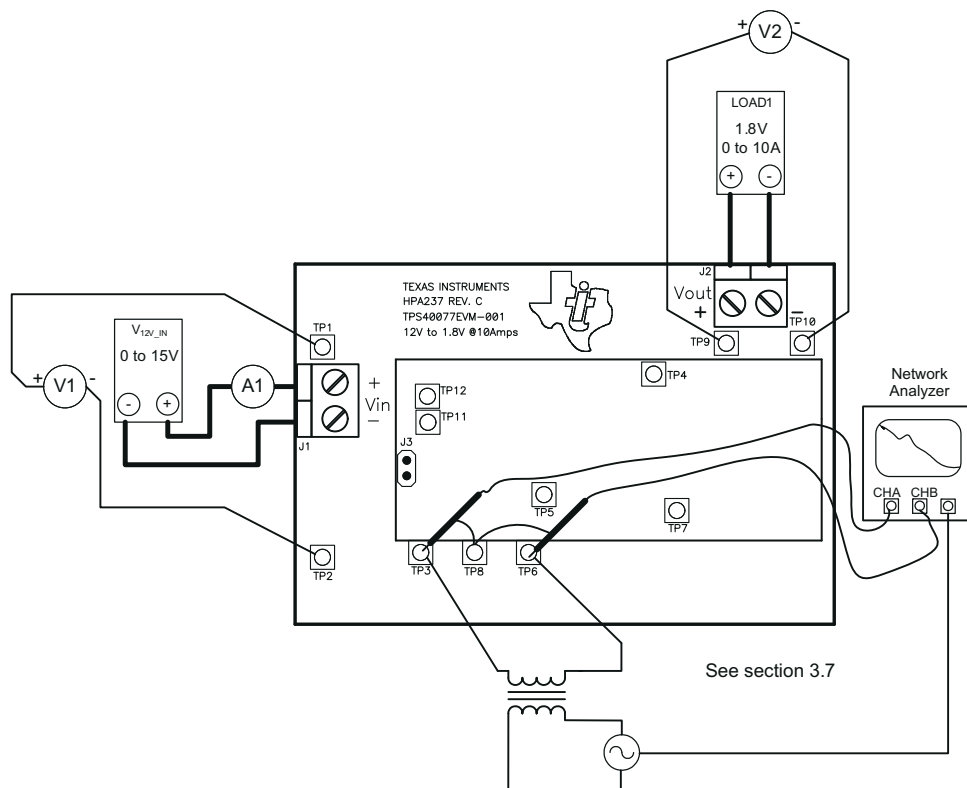

Figure 3-4. Control Loop Measurement Setup
1. Connect a 1-kHz to 1-MHz isolation transformer to TP3 and TP6 as shown in Figure 3-4.
2. Connect an input-signal amplitude-measurement probe (channel A) to TP3 as shown in Figure 3-4.
3. Connect an output-signal amplitude measurement probe (channel B) to TP6 as shown in Figure 3-4.
4. Connect the ground lead of channel A and channel B to TP8 as shown in Figure 3-4.